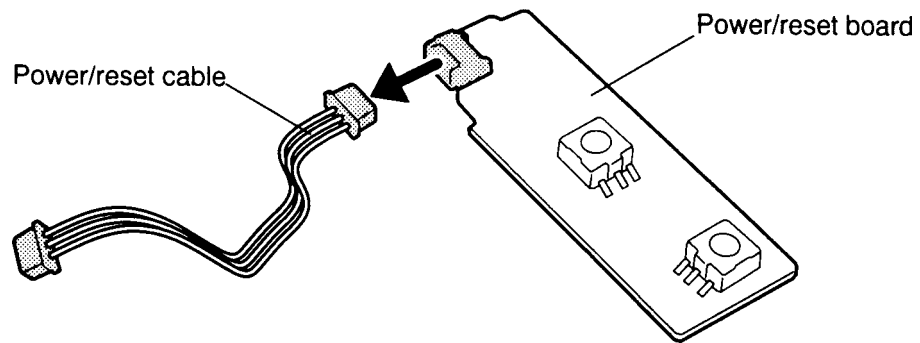

Figure 4-31 Removing the power/reset cable
10. Disconnect the **power/reset cable** from the **power/reset board** (Figure 4-31).
1. Connect the **power/reset cable** to the **power/reset board** (Figure 4-31).